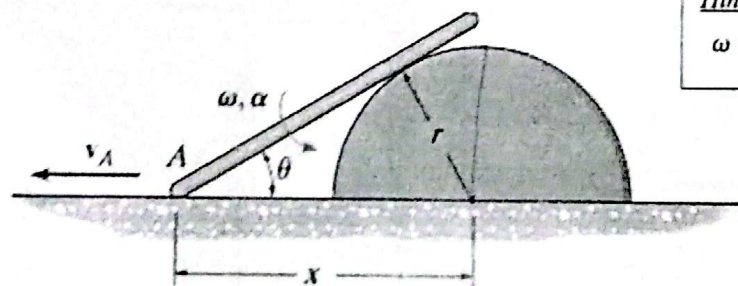

Figure 3. A Slender Bar moving to the left
- Q3: The bar moves to the left with a constant velocity of v_A at end A as shown in the Fig. 3. Figure out the angular velocity ω of the bar as a function of its position x . [05 marks]